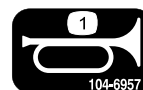

Figure 30
2. Remove the backing of the new decal and place about 6.5 mm (1/4 inch) above the horn button on the dash (Figure 30).